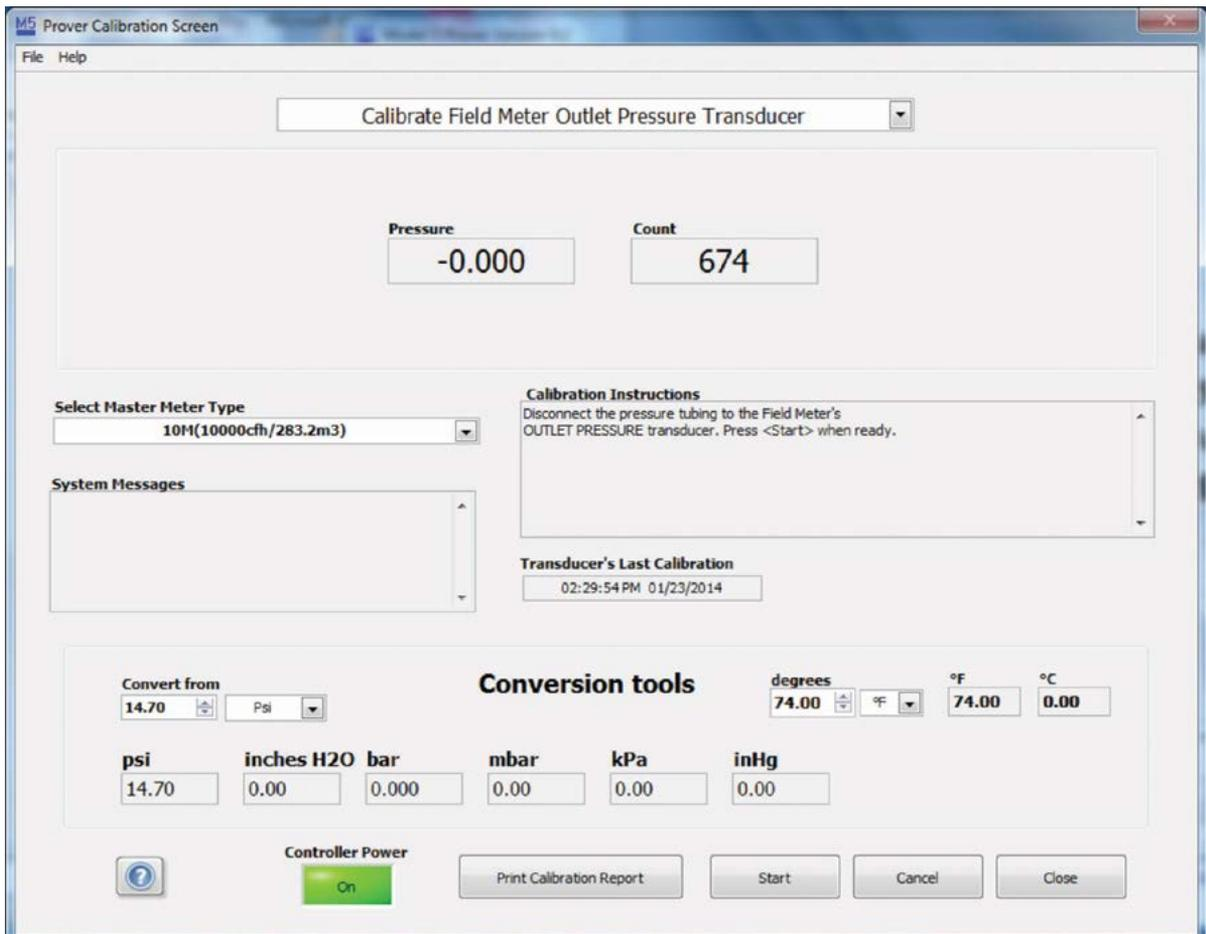

Figure 132: Select Calibrate Field Meter Outlet Pressure Transducer
1. From the Prover Calibration Screen, select the pull down arrow and click "Calibrate Master Meter Outlet Pressure Sensor." Refer to **Figure 132**.